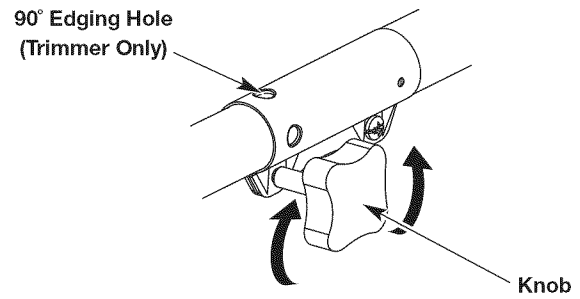

Fig. 2
1. Turn the knob counterclockwise to loosen (Fig. 2).
3. Turn the knob clockwise to tighten (Fig. 2).
For decorative edging with a string trimmer attachment, lock the release button into the 90° edging hole (Fig. 2).